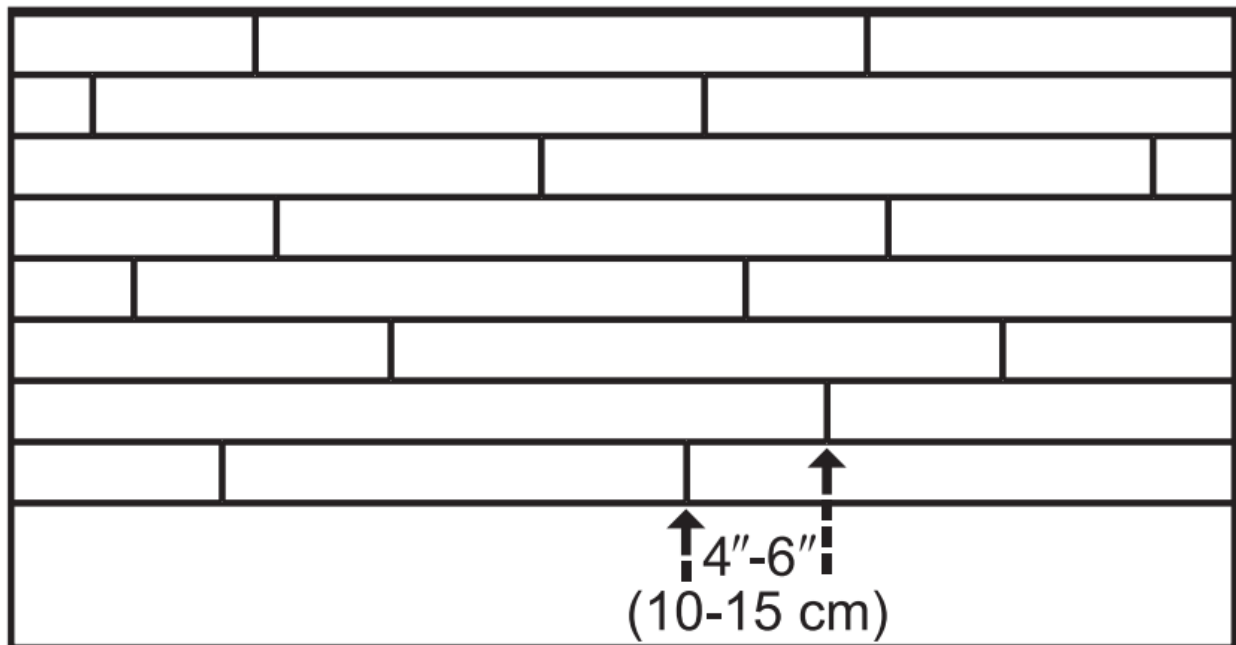

Figure 3
- Be attentive to staggering the ends of the boards at least 4"-6" (10-15 cm) when possible, in adjacent rows (Figure 3). This will help ensure a more favorable overall appearance of the floor.
- End-joints of adjacent rows should be staggered a minimum of 4"-6" (10-15 cm) when possible, to ensure a more favorable overall appearance (Figure 3).
- Check for a tight fit between all edges and ends of each plank. End joints of adjacent rows should be staggered 4"-6" (10-15 cm) when possible, to ensure a more favorable overall appearance (Figure 3).